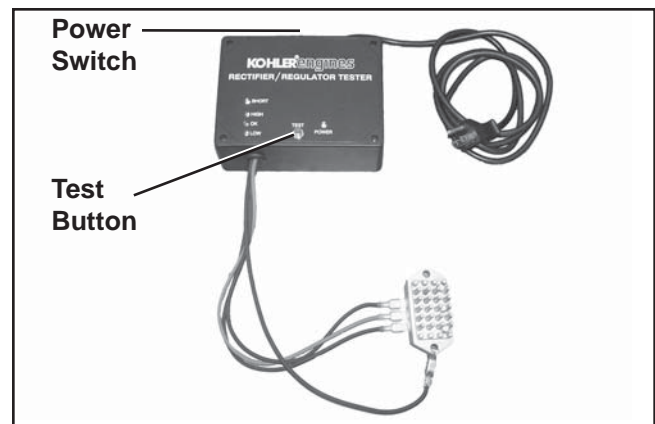

Figure 7-7. Testing the Rectifier-Regulator with a Tester.
4. Plug the tester into the proper AC outlet/power supply for tester being used. Turn on the power switch. The **POWER** light should be lit and one of the four status lights may be lit as well. See Figure 7-7. This **does not** represent the condition of the part.
5. Press the **TEST** button until a **click** is heard and then release. See Figure 7-7. Momentarily one of the four status lights will illuminate indicating the **partial condition** of the part.